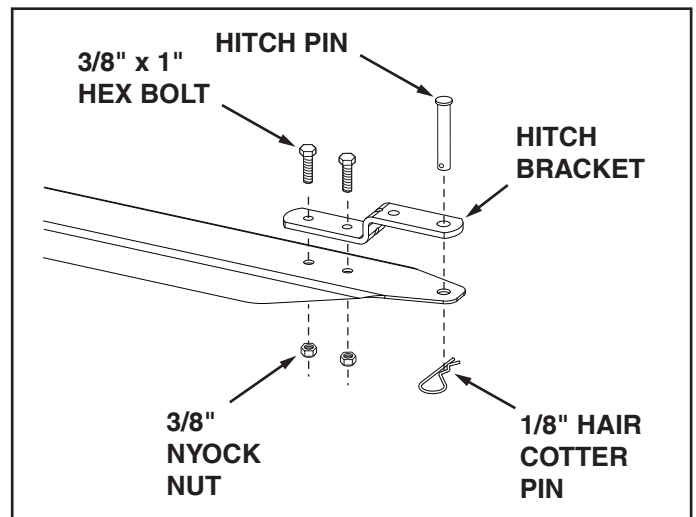

FIGURE 13
- Assemble the end of the hitch bracket that has two same size holes to the drawbar tongue using two 3/8" x 1" hex bolts and 3/8" nylock nuts. **Tighten**. See figure 13.
- Assemble the hitch pin through the hitch bracket and the tongue and secure with the 1/8" hair cotter pin. See figure 13.